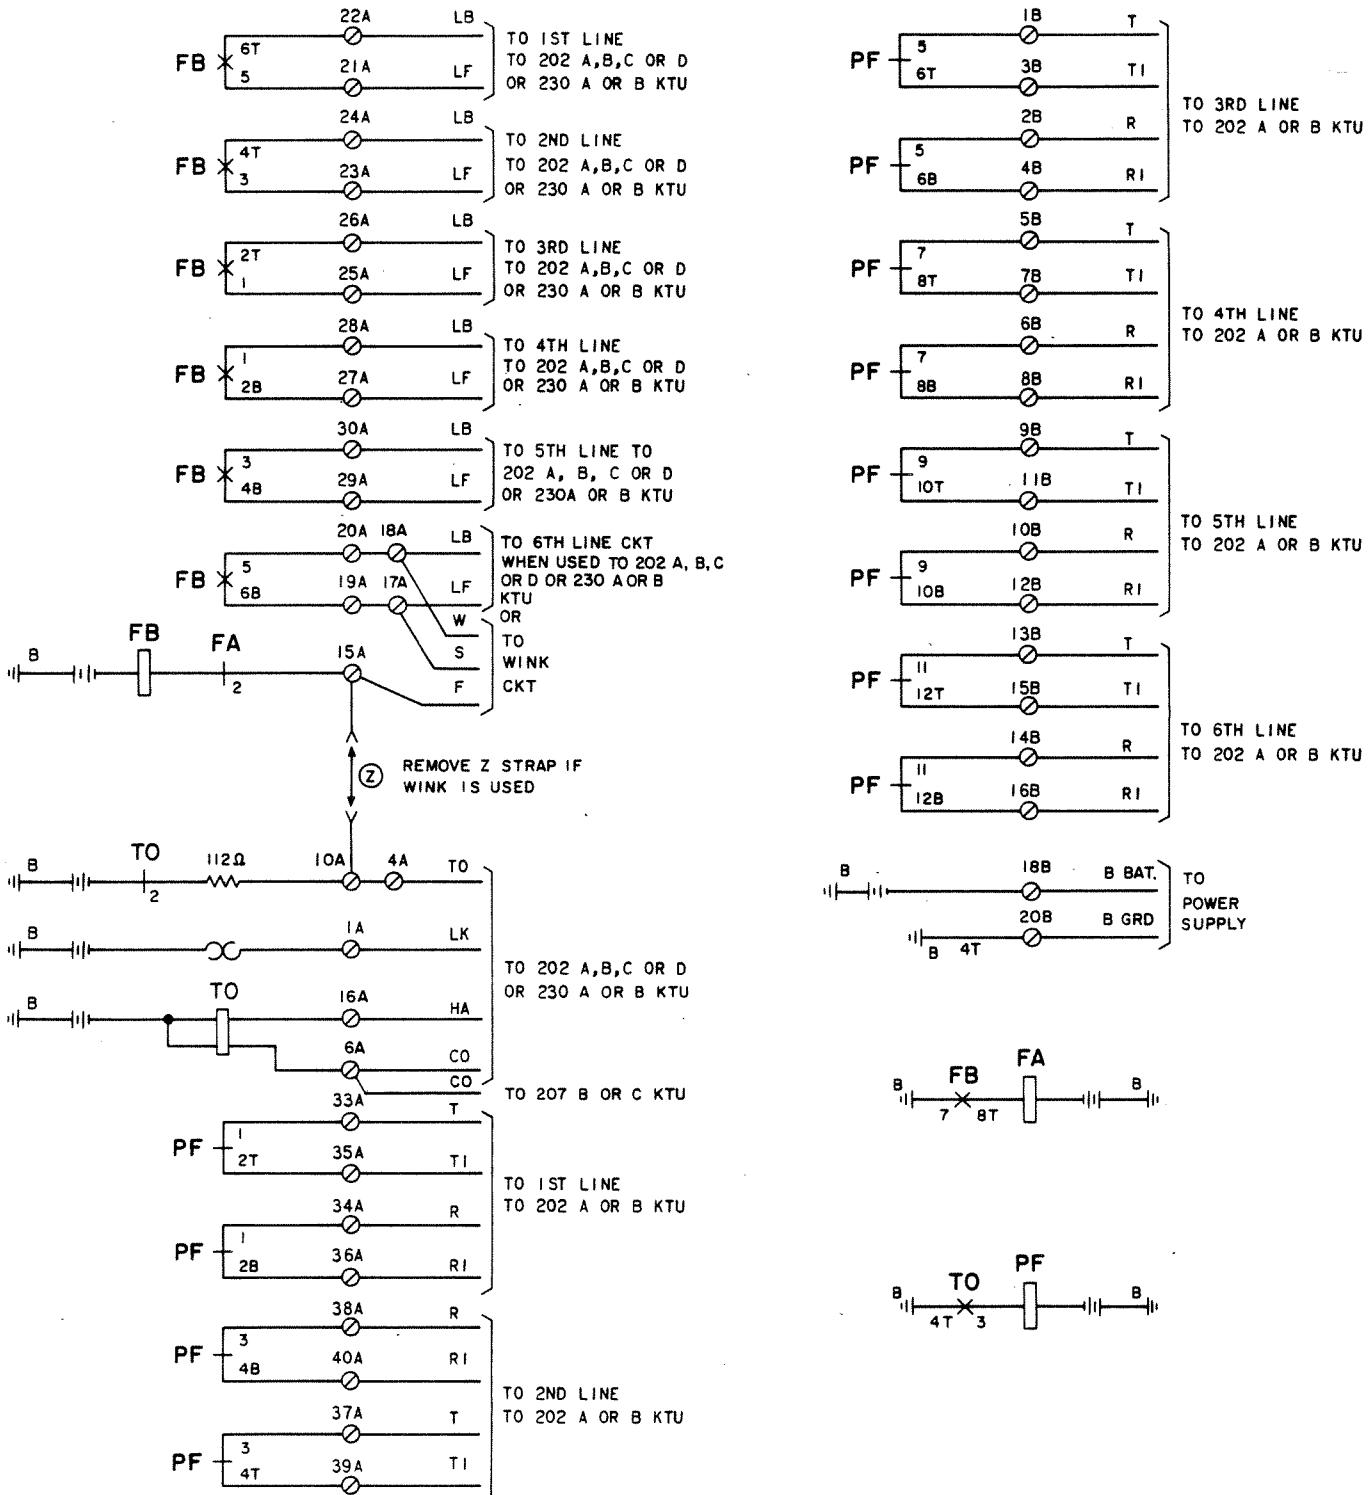

Fig. 10—Functional Schematic of 209A KTU (MD) (Lamp Flashing and Time-Out Circuit)
H. 209A KTU (MD) (Lamp Flashing and Time-Out Circuit)
2.13 The 29A KTU (Fig. 10) is used on CO or PBX lines to provide: